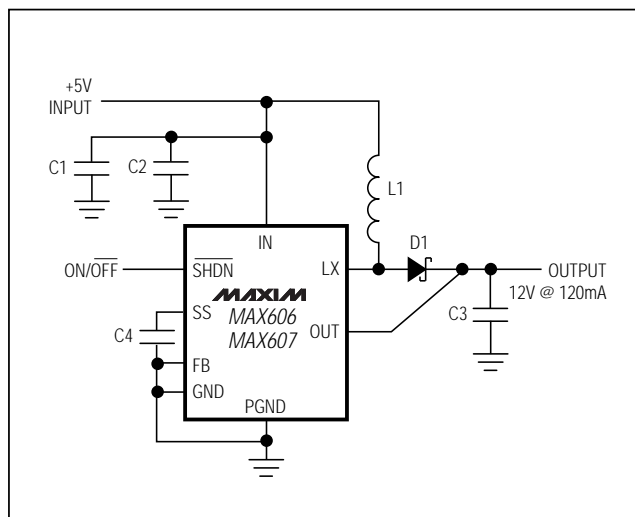
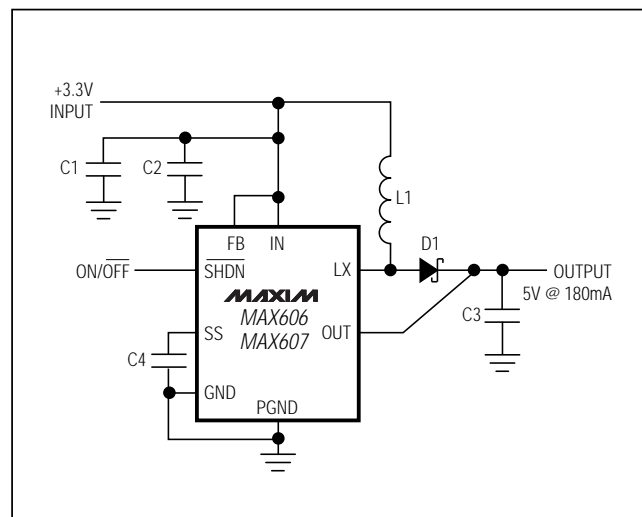

Figure 1. 12V Standard Application Circuit
Figure 2. 5V Standard Application Circuit
This data sheet provides two predesigned standard application circuits. The circuit of Figure 1 produces 12V at 120mA from a 5V input. Table 1 lists component values and part numbers for both the MAX606 and MAX607 variations of this circuit. The circuit of Figure 2 produces
**Table 1. Suggested Components for 12V Standard Application Circuit of Figure 2**
**Table 2. Suggested Components for 5V Standard Application Circuit of Figure 1**
The output voltage ripple is approximately 100mVp-p for the 12V Standard Application Circuit (Figure 1) and 50mV for the 5V circuit (Figure 2). To further reduce this ripple, or to reduce the ripple on a different application circuit, increase the value of the output filter capacitor. If this capacitor is low ESR (e.g., ceramic), the output voltage ripple will be dominated by this capacitance.